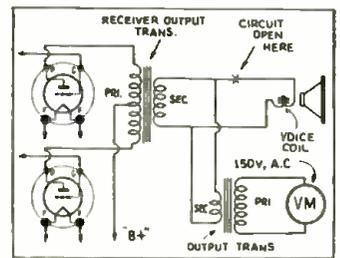

Fig. 7. Output indicator.
**OUTPUT INDICATOR.** Regular output meters are rather expensive and not always easy to obtain in a hurry. A standard A.C. voltmeter may be used by connecting it with a dynamic speaker output transformer, as in Fig. 7. The voltage will be stepped up enough so that a good reading can be had on a 0-150 V. scale instrument.